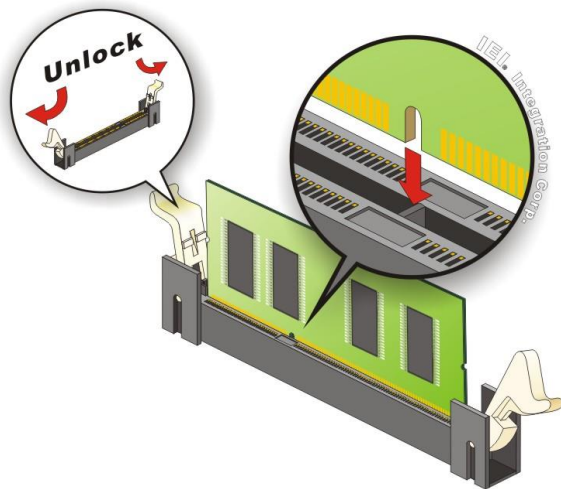

Figure 4-6: SO-DIMM Installation
To install an SO-DIMM, please follow the steps below and refer to **Figure 4-6**.
- Step 1: Open the SO-DIMM socket handles.** Open the two handles outwards as far as they can. See **Figure 4-6**.
- Step 2: Align the SO-DIMM with the socket.** Align the SO-DIMM so the notch on the memory lines up with the notch on the memory socket. See **Figure 4-6**.
- Step 3: Insert the SO-DIMM.** Once aligned, press down until the SO-DIMM is properly seated. Clip the two handles into place. See **Figure 4-6**.